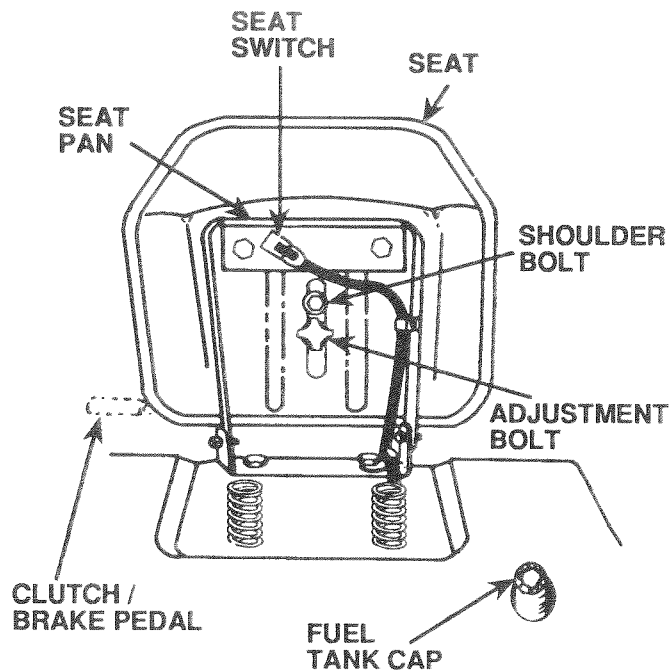

FIGURE 8
- Seat position should be adjusted forward or backward so that the operator can comfortably reach Clutch/ Brake Pedal and safely operate the Tractor (Fig. 8).
- a. Place Seat on Seat Pan. Screw Hand Adjustment Knob and Shoulder Bolt into Seat (Fig. 8). Adjustment Knob and Shoulder Bolt found in Bag of Parts.
2. Fill Fuel Tank (Fig. 8) with clean, fresh, lead free, low lead or regular grade Gasoline. The use of lead free gasoline produces fewer combustion deposits which will result in longer Engine life. Capacity is 3-1/2 gallons (13.2 litres).